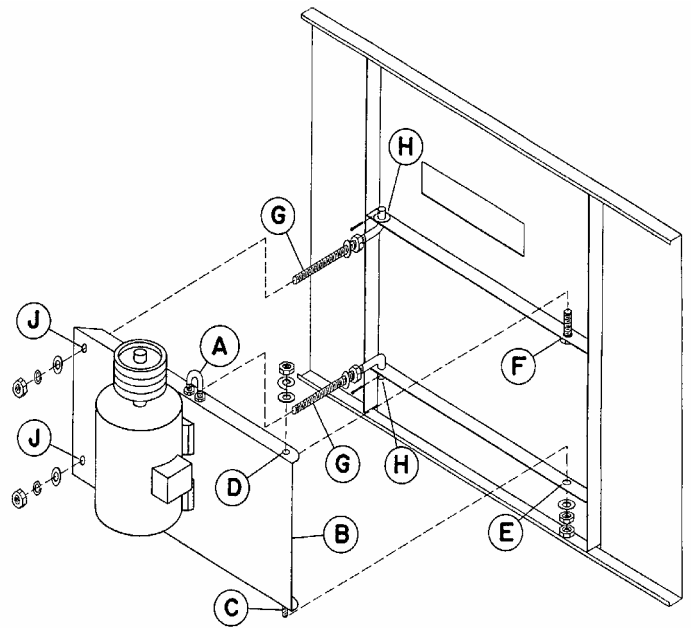

Figure 15 - External Motor Installation
1. Study Figure 15 before installing the motor base on the unit.